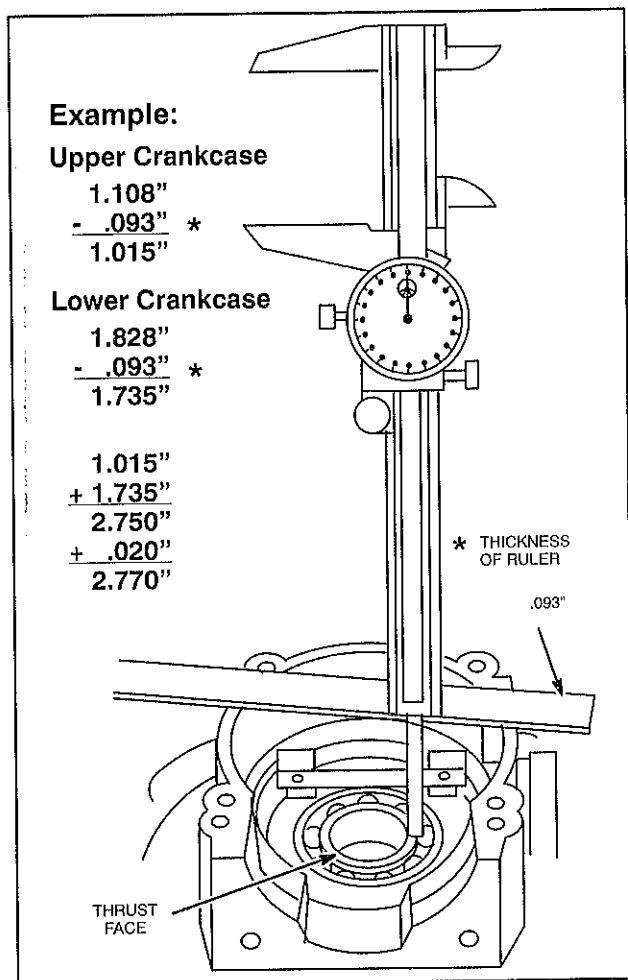

Fig. 24 - Measuring Crankcase
2. Use dial caliper and measure distance from top of ruler to thrust face of ball bearing, Fig. 24. Record this dimension.